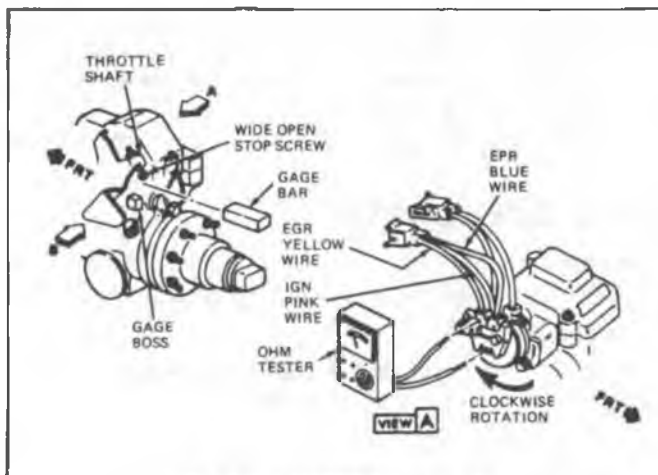

Fig. 2-14 LH6 TPS Adjustment
2. Attach a continuity meter across the IGN (pink) and EGR (yellow) terminals or wires (Fig. 2-14).